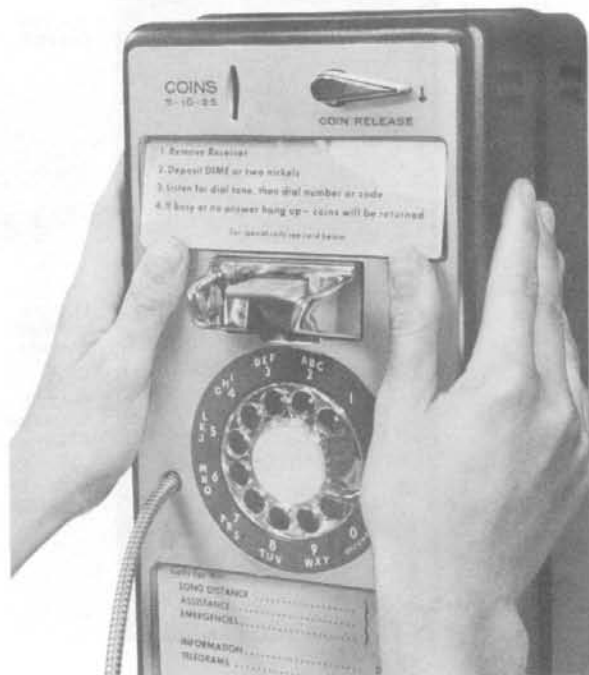

Fig. 14 — Installing Instruction Cards (1C-Type)
- Push up with fingers (Fig. 14)